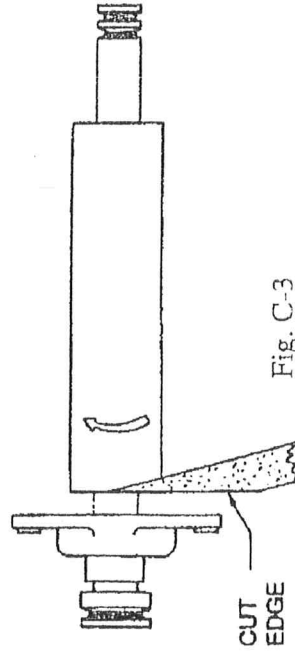
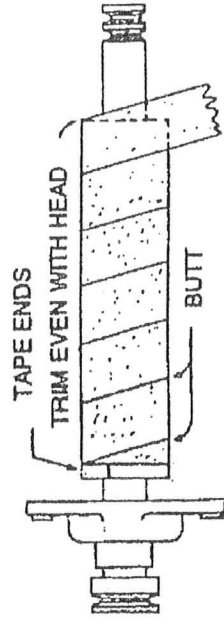

Fig. C-3
Fig. C-4
5. Apply the sandpaper to the head in a spiral. Start the cut edge at the drive end of the cutterhead and turn the cutterhead one revolution (see fig. C-3). Then align with the edge of the sandpaper and continue to turn the cutterhead (see fig. C-4). Be sure to get the sandpaper wrapped tightly.